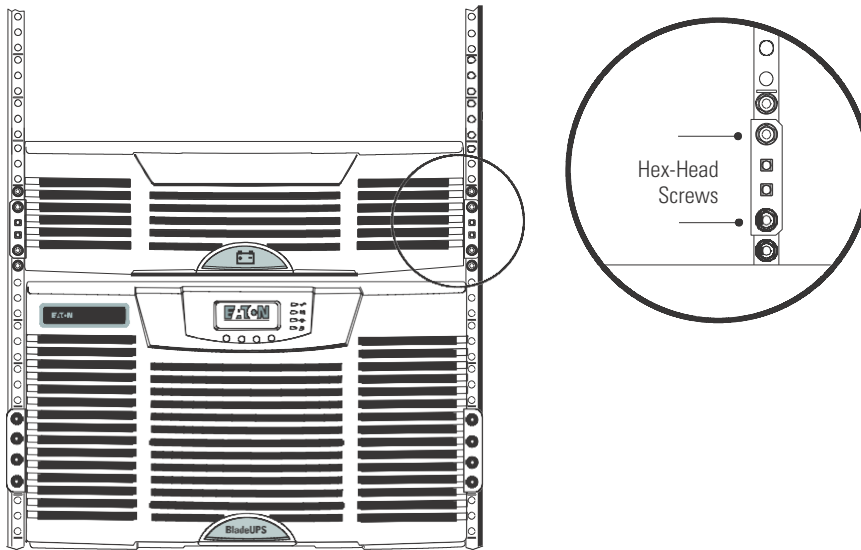

Figure 37. Securing the EBM Mounting Brackets
11. Secure the front of the EBM to the rack using two hex-head screws in each mounting bracket as shown in Figure 37.